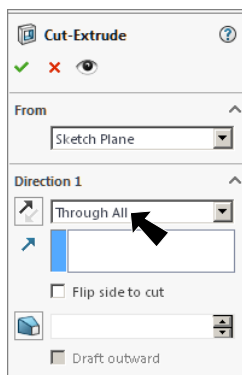

Fig. 16
Step 10. In the Cut-Extrude Property Manager set: under Direction 1, **Fig. 16**